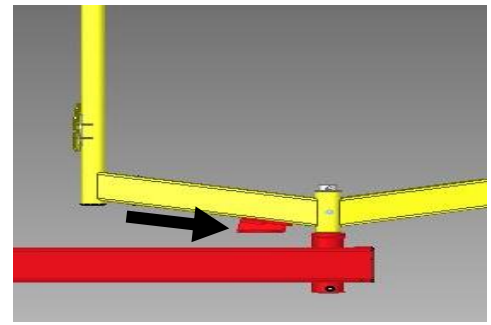

Figure 8
- On the newly installed tine section fork, install another welded assembly KG12 with the M12x110 bolts and M12 nuts as well as one M12 washer each (Figure 8).